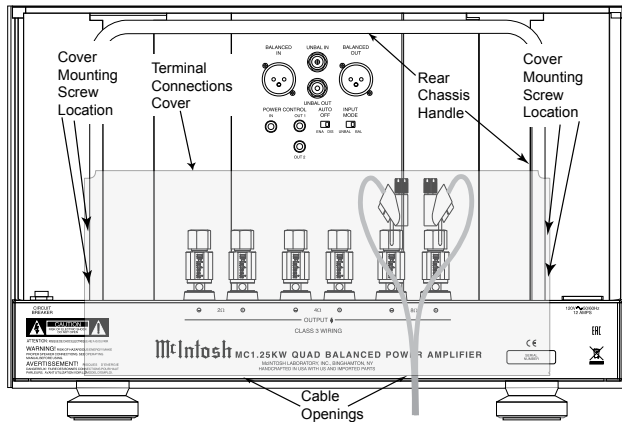

Figure 5 (Inside USA and Canada)
5. Locate the Terminal Connections Cover from the inside of the MC1.25KW shipping carton. Insert the just prepared Loudspeaker hookup cables thru the cover opening on the right side. Refer to figure 5.
Note: The illustration in figure 5 is connections for 8Ω (ohms) Loudspeakers.
9. Attach the Terminal Connections Cover to the MC1.25KW Rear Panel with the previously removed Screws. Refer to figure 5.